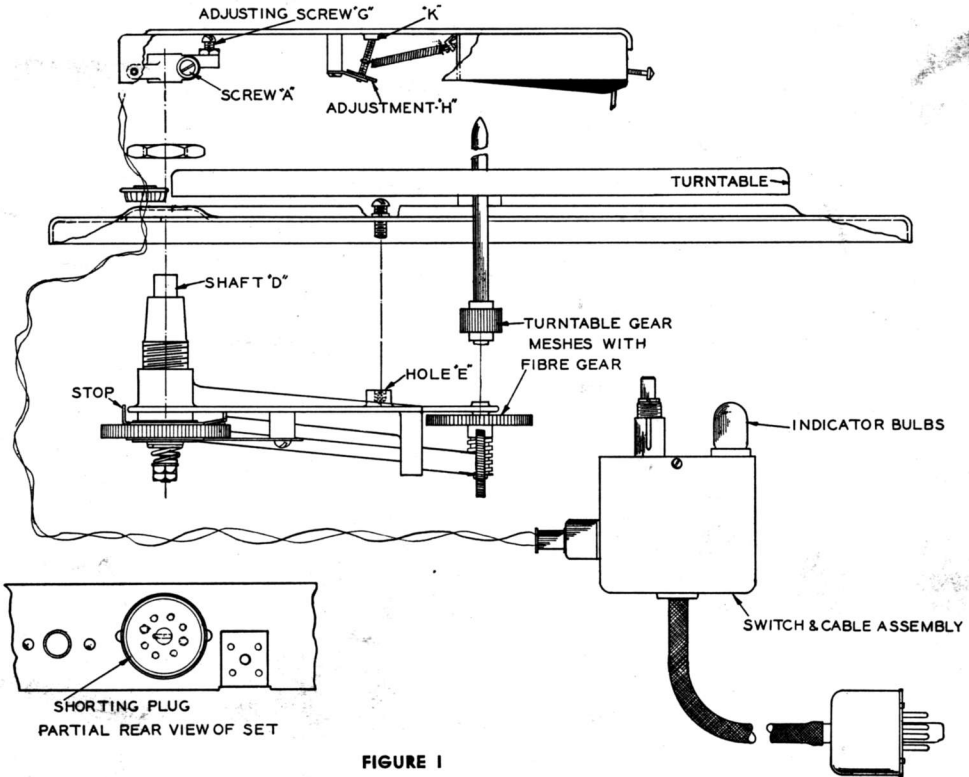

FIGURE 1
- Loosen screw A and remove cutting arm assembly from driving mechanism, as shown in FIGURE 1.
- Remove screw found in hole E in drive mechanism and remove large nut and washers found on shaft D (see FIGURE 1).
12. Upon observation you will find the shaft that protrudes through hole B has a stop (see FIGURE 1). This stop is so designed to limit the motion of the cutting arm towards the spindle. The reason for this limitation is to prevent the cutting needle from hitting the turntable record drive pin or the needle dropping into the record drive hole.
19. Now lower cutting arm and place the cutting needle 1-5/16 inches from edge of turntable spindle. During normal operation the stop (see item 11 installation of cutting arm) should prevent needle from going closer than 1-5/16 inches from turntable spindle.